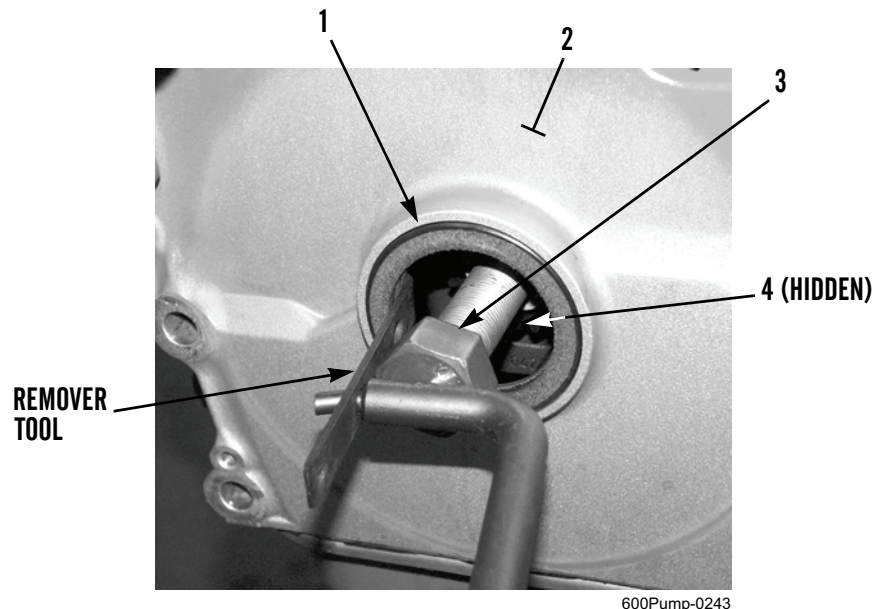

Figure 1. Removing Front Main Seal.
1. Partially install V-belt pulley and vibration damper bolt (Figure 1, Item 3) on crankshaft (Figure 1, Item 4).
2. Hook remover tool behind front main seal (Figure 1, Item 1) and use bolt (Figure 1, Item 3) as leverage to remove front main seal from engine front cover (Figure 1, Item 2). Discard seal.